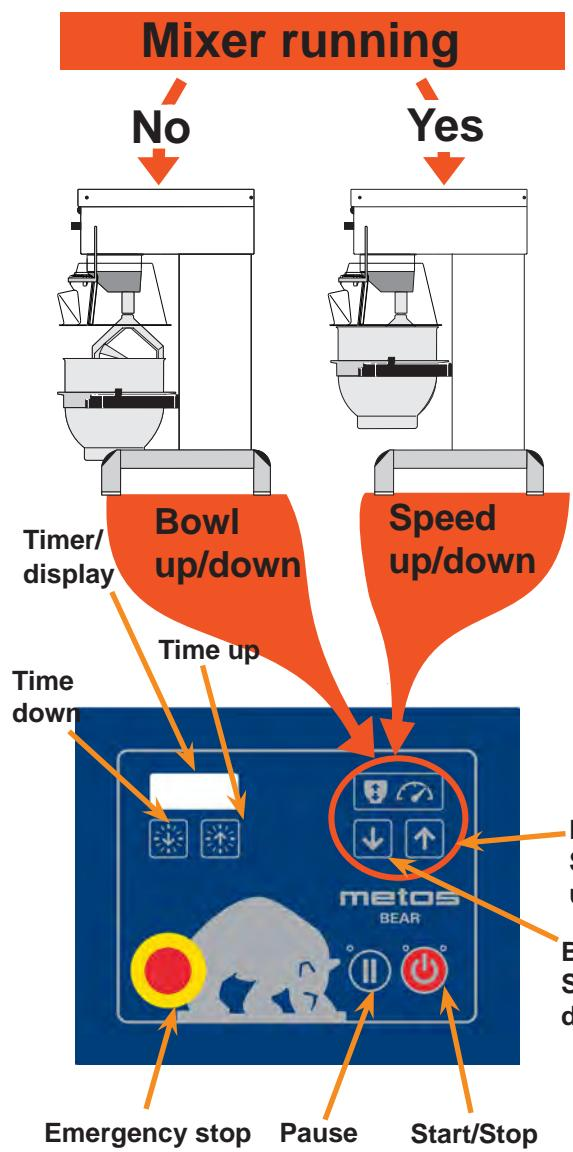

Fig. 3 Bowl lifting and speed control.
- C Press  to lift the bowl (fig. 3). The bowl will automatically stop in the top position.
- E Press  to start the mixer (fig. 3).
The mixer's control panel has two buttons:  and , which both have two functions (fig.3):
- Release the emergency stop (fig. 3) by turning it anticlockwise or close the safety guard.